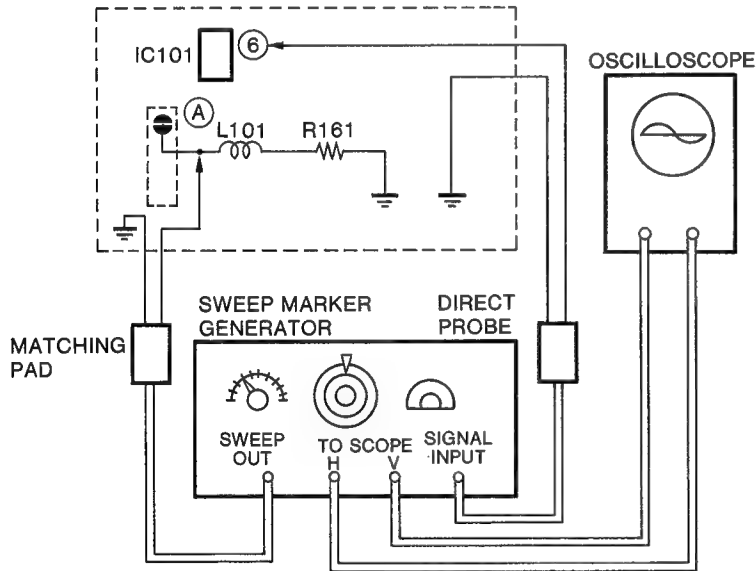

Figure 17. AFT Alignment
1. Unsolder to open the solder links (A) and (C) on the Main Board.
2. Connect the sweep/marker generator in series with matching pad to the junction of solder link (A) and L101 on the Main Board. (See figure 17.) Tune to 40 – 50MHz sweep.
4. Connect the oscilloscope with direct probe to Pin 6 of IC101. (See figure 17.)